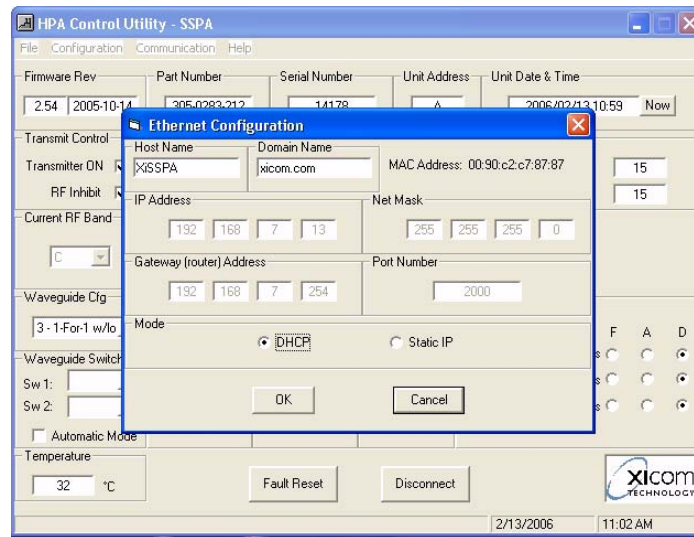

Figure 24, Ethernet Configuration
8. Refer to Figure 24. The “Configuration -> Ethernet Configuration” menu allows the selection of the network Host and Domain names, and allows configuration of the IP Address and the net mask if “Static IP” is selected. If DHCP is selected, a server on your network assigns the IP address.